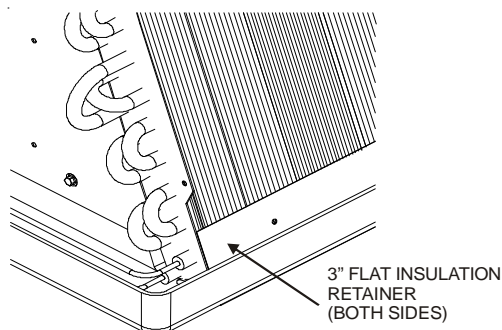

Figure 4
10. To prevent possible condensate "blow off" the insulation retainers are to be laid into the evaporator coil pan as shown in **Figure 4**.